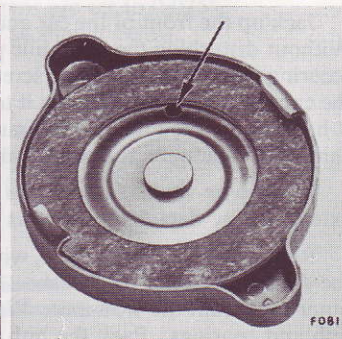

Fig. 27
**NOTE.** When the breather valve is cleaned, remove the oil filler cap and check that the breather hole (arrowed, Fig. 27) is unobstructed and that the joint washer is serviceable.